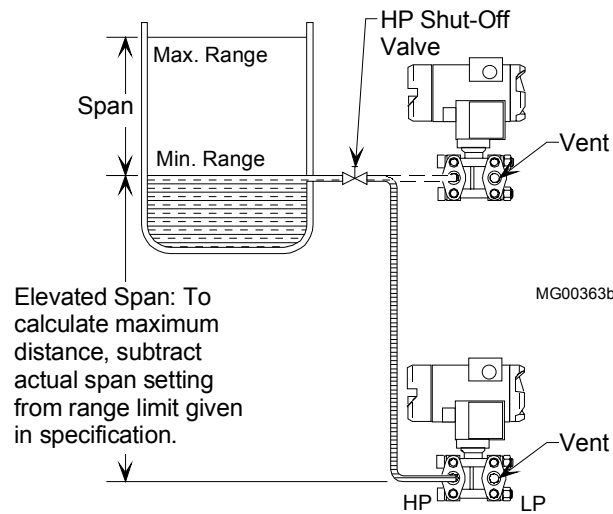

FIGURE C-1 Elevated Span
- Elevated Span - The Lower Range Value (LRV) of the transmitter needs to be configured above "0." See Figure C-1.